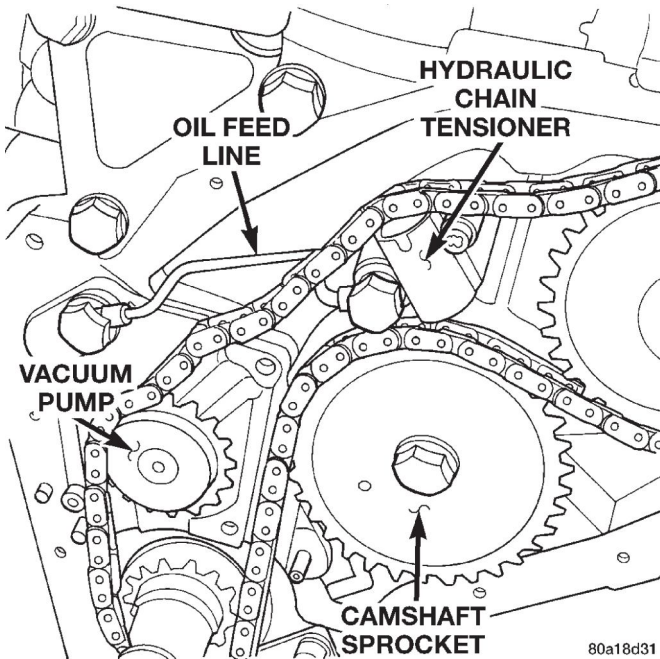
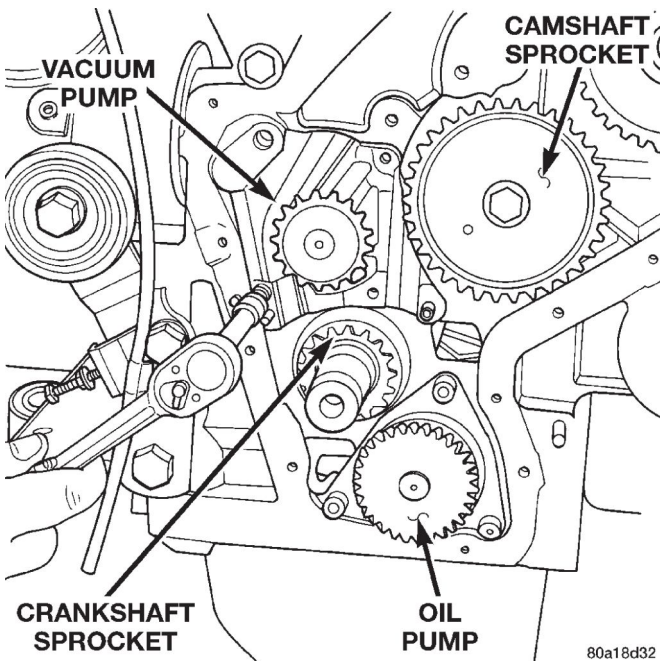

Fig. 70 Hydraulic Tensioner and Oil Feed Line
Fig. 71 Vacuum Pump—Removal
- (14) Remove hydraulic tensioner oil feed line (Fig. 70).
- (15) Remove hydraulic tensioner.
- (16) Remove timing chain.
- (17) Remove vacuum pump (Fig. 71).